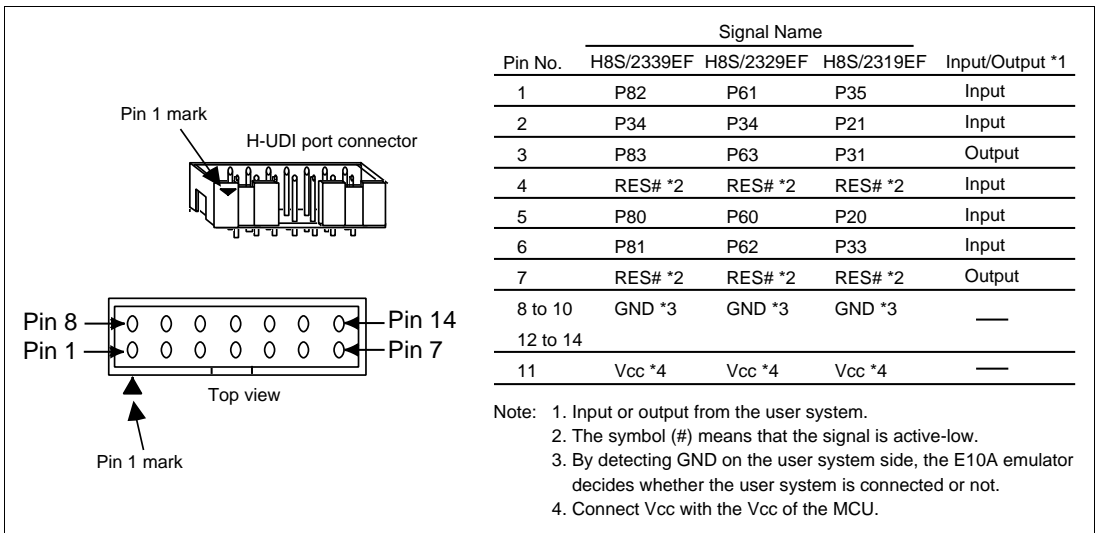

Figure 1.2 Pin Assignments of the H-UDI Port Connector
Figure 1.2 shows the pin assignments of the H-UDI port connector.
4. The E10A emulator communicates with the MCU by using the pins shown in figure 1.2 (section 1.3). These pins cannot be used.